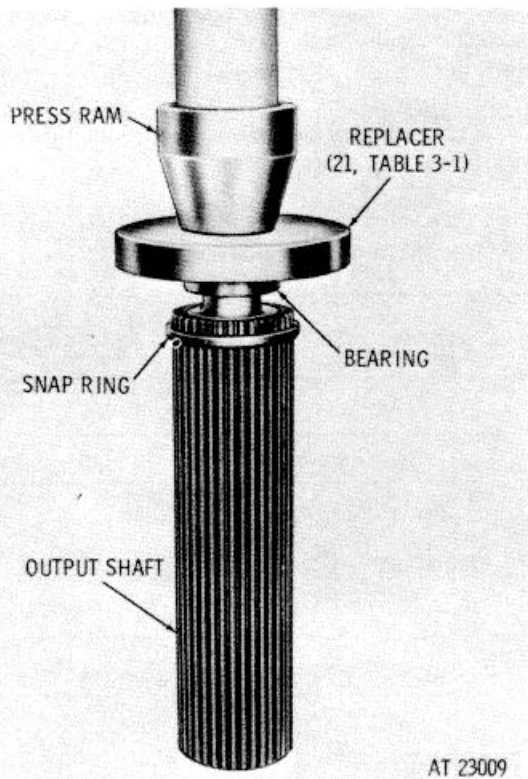

Figure 7-32. Installing double-row ball bearing onto output shaft.
a. If double-row ball bearing (12) was removed from output shaft assembly (8), install a new bearing. Using replacer (21, table 3-1), (fig. 7-32), install the bearing onto the shaft. Press the bearing until it is firmly seated against the shoulder on the shaft.